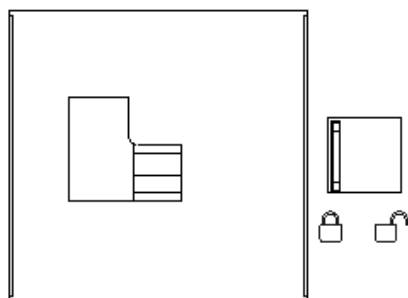

Fig.10.6
4. Pull the cover plate of the maintenance breaker leftward to close it (Fig.10.6)